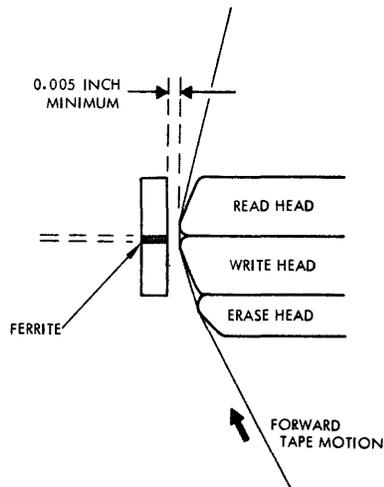

Figure 6-4. Flux Gate Adjustment
- (8) Partially loosen the screws which secure the flux gate assembly. Care should be taken to ensure that the flux gate spring does not move the assembly.
- (9) Place a white card (e.g., business card) between the flux gate and the magnetic head and press the flux gate assembly lightly against the head.
- (10) Figure 6-4 illustrates the correct relationship between the magnetic head and the flux gate.